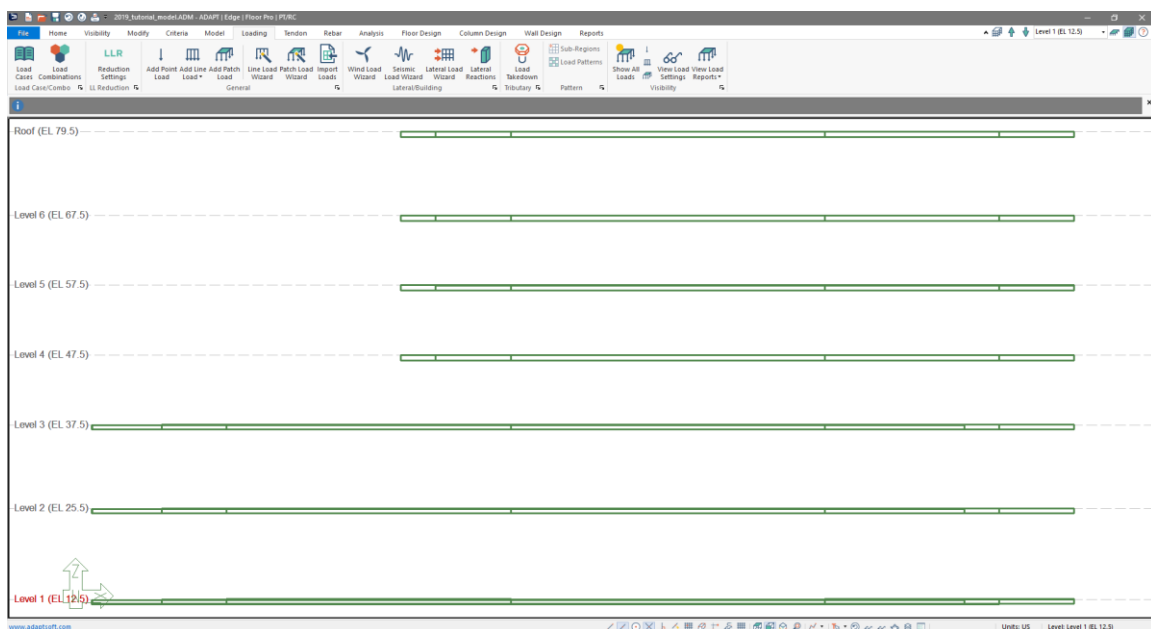

Figure 7-13
- Click on the *Front View* icon  in the **Bottom Quick Access Toolbar**. This will bring you to the view of the model shown in **FIGURE 7-13**.